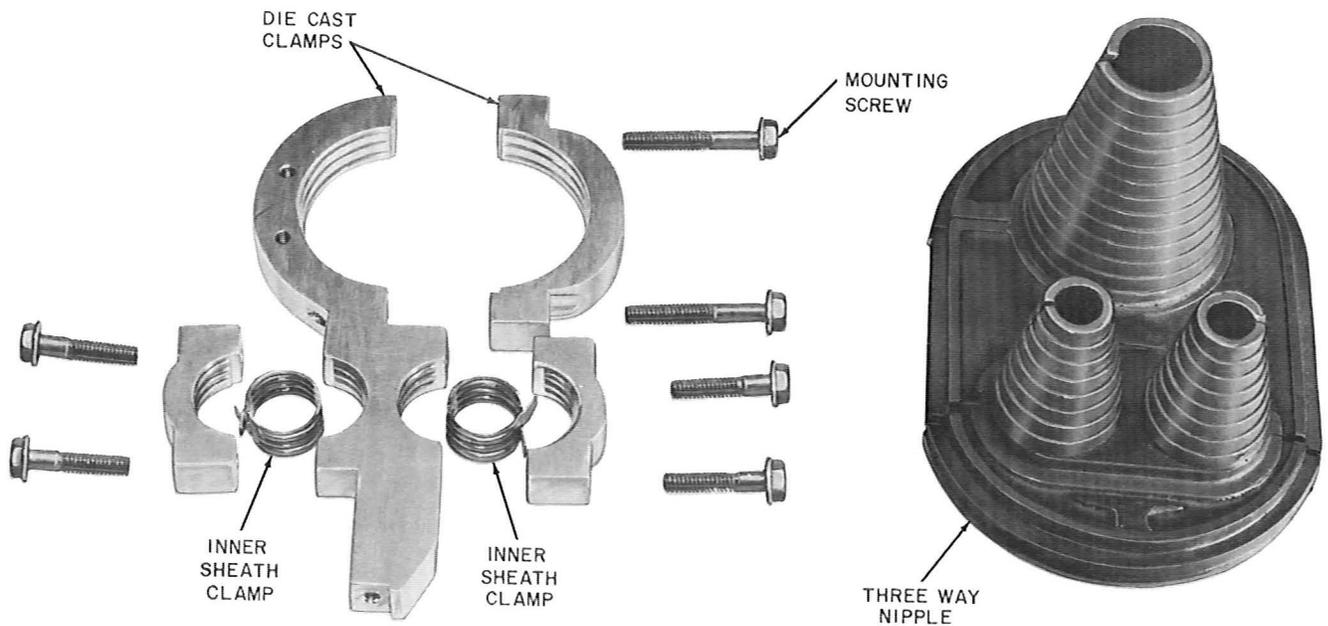

Fig. 7—170B1 Adapter
**2.06** Where three cables are required to enter one end of a 1B1 or 1C1 Closure, it will be necessary to order a 170B1 Adapter for the 1B1 Closure or a 170C1 Adapter for the 1C1 Closure. The 170B1 Adapter (Fig. 7) and the 170C1 Adapter (similar to Fig. 7) each consists of a plastic nipple,